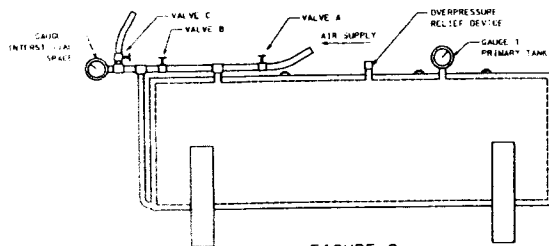

FIGURE 2
3.2.2.2 Install test piping as shown in Figure 2. Close valves A and B. Open valve C. Temporarily plug, cap or seal off remaining tank openings to hold pressure.
3.2.2.3 Connect regulated test air supply line to test piping as shown in Figure 2.